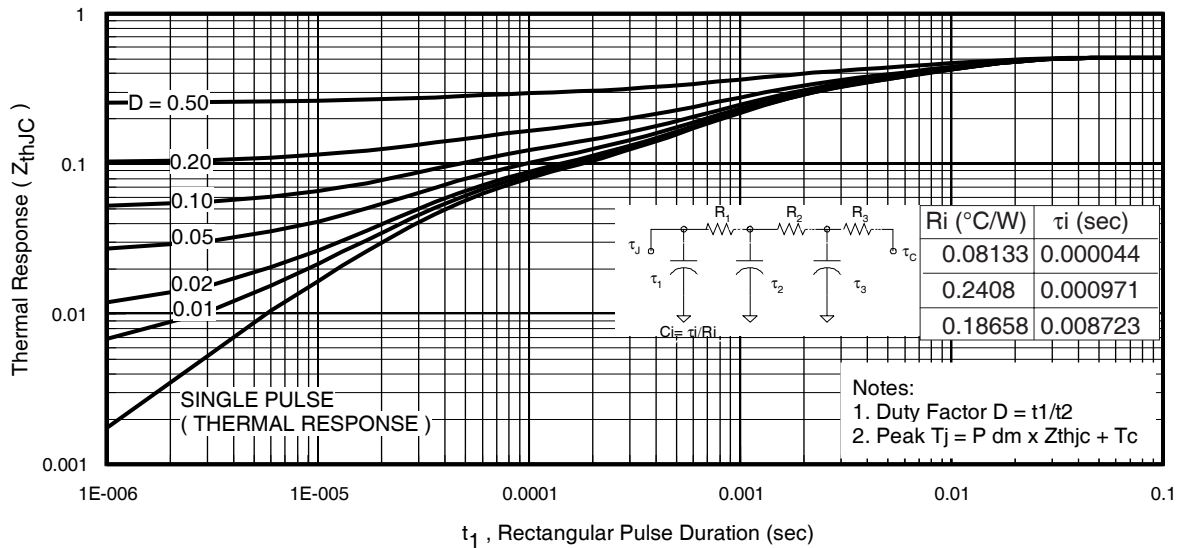

Fig 11. Maximum Effective Transient Thermal Impedance, Junction-to-Case
- ① Repetitive rating; pulse width limited by max. junction temperature. (See fig. 11).
- ② Limited by T_{Jmax} , starting $T_J = 25^\circ\text{C}$, $L = 0.10mH$, $R_G = 25\Omega$, $I_{AS} = 75A$, $V_{GS} = 10V$. Part not recommended for use above this value.
- ③ Pulse width $\leq 1.0ms$; duty cycle $\leq 2\%$.
- ④ $C_{oss\ eff.}$ is a fixed capacitance that gives the same charging time as C_{oss} while V_{DS} is rising from 0 to 80% V_{DSS} .
$Z_{thJC}(D, t_{av})$ = Transient thermal resistance, see figure 11)